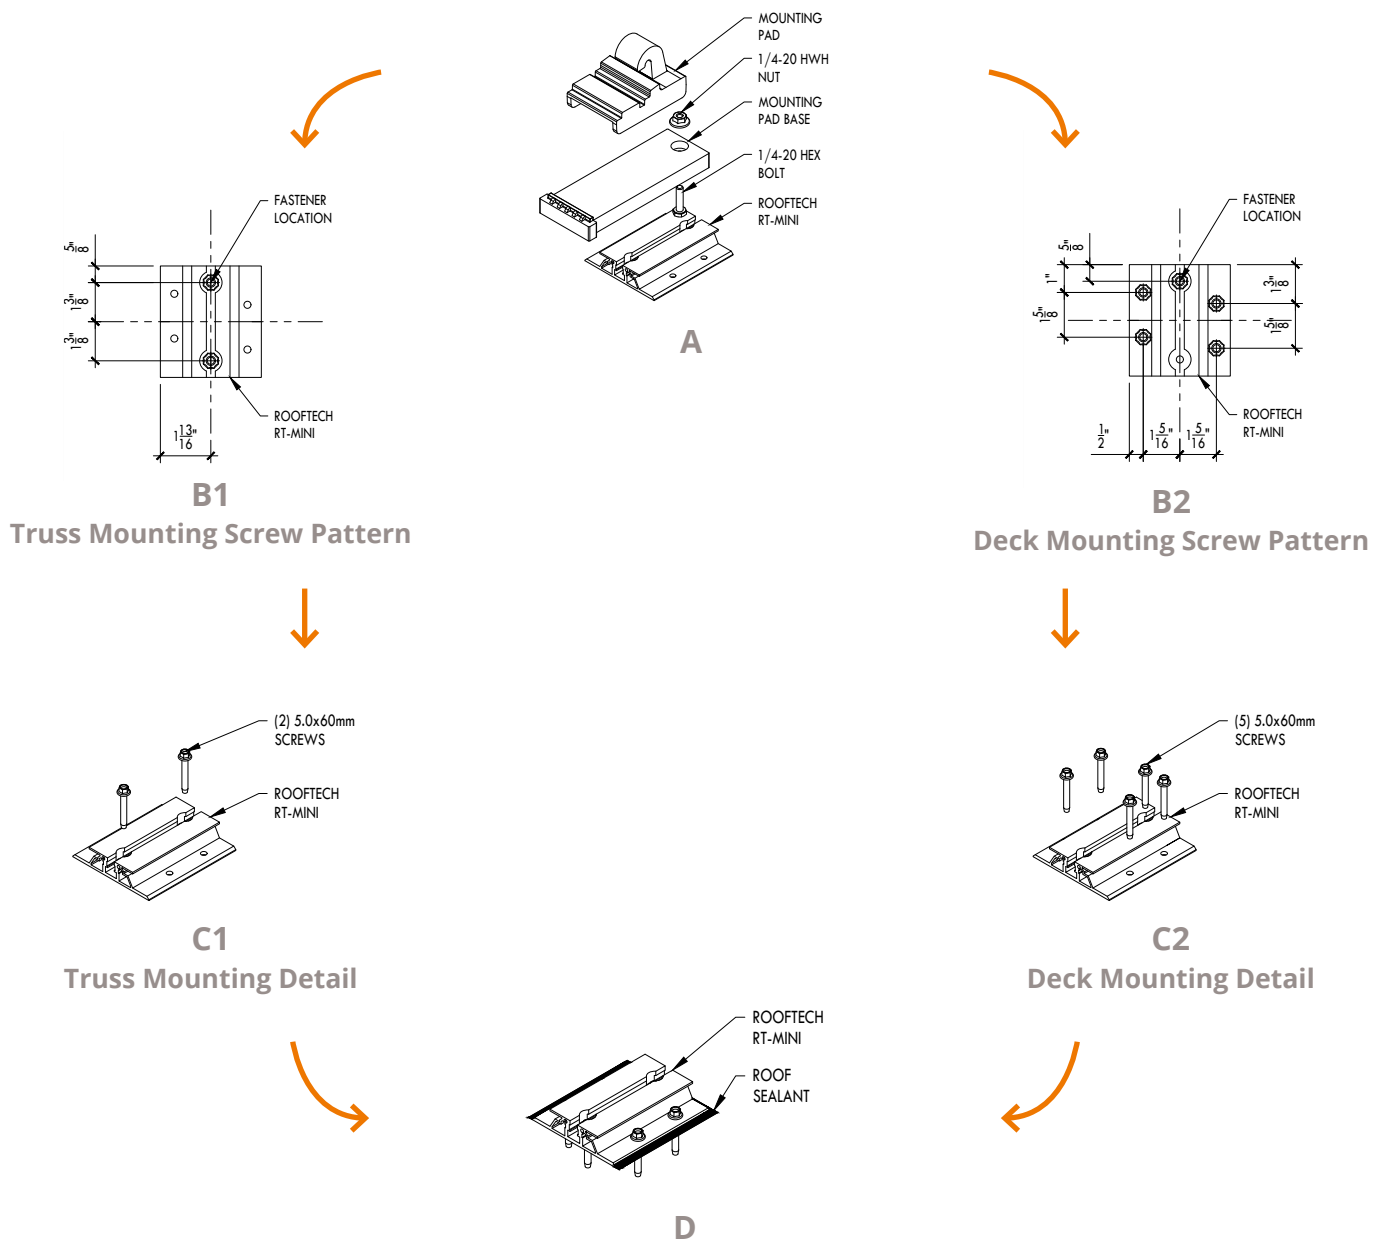

Fig. 6
- c. If mounting into trusses, position the first RT-Mini on the chalk line and centered over a roof truss (Fig. 6-B1). If deck-mounting, position wherever the first Mounting Pad will be located (Fig. 6-B2).
- d. Peel off the protective paper and firmly press the RT-Mini onto the roof making sure the butyl sealant has adequate contact with the roof surface. Slide the stainless steel ¼-20 HWH bolt into the top slot in the RT-Mini (Fig. 6-A).
- e. If mounting into the roof truss install the (2) included M5 x 60 mm (#10 x 2.375") wood screws through the two holes in the center of the mount. If deck mounting, then (5) screws are required with (4) on the outer holes one in a center hole of the mount (Fig. 6-C2).
- g. Apply roof sealant to the top and each side edge of the brackets (Fig. 6-D).
- h. Once the RT-Mini is anchored into the roof attach the Mounting Pad by placing it on top of the RT-Mini with the stainless steel ¼-20 HWH bolt coming up through the hole. Fasten the mount by tightening a stainless steel 1/4-20 HWH nut onto the bolt (Fig. 6-A).